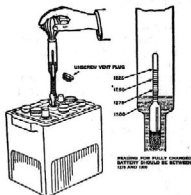

Fig. 43—Storage Battery
- 4th—Prevent a discharged condition, test specific gravity every two weeks with the hydrometer, as shown in Fig. 43, and avoid excessive use of the starting motor, excessive night driving and short, low speed driving, particularly in winter time.